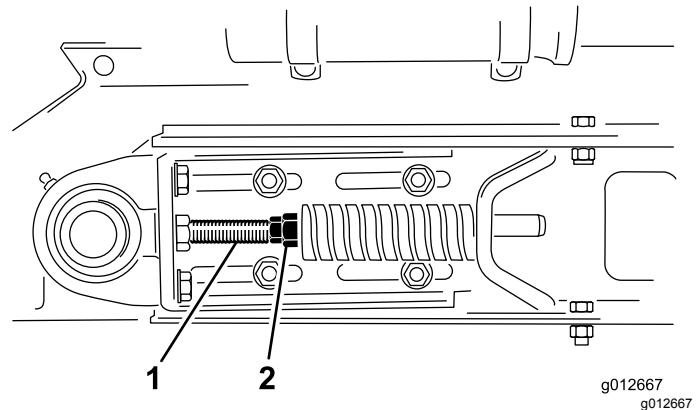

Figure 24
1. Loosen forward and rear jam nuts on tension rod to release spring tension (Figure 24).